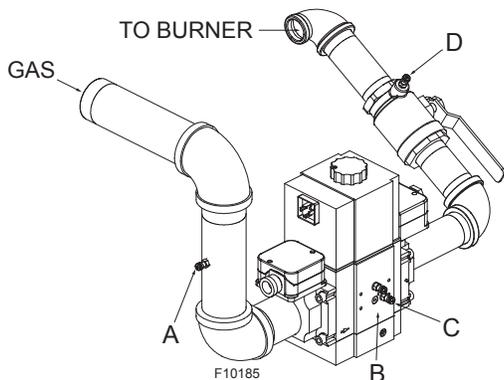

Figure 42. Gas Pressure Measurement Locations
2. Attach (1) 12" scale manometer to an upstream bleedle valve on the gas supply pipe to the heater Measure point "A" in **Figure 42**.
Test point C is a bleedle valve located downstream of both automatic gas valve seats and upstream of the manual valve. Refer to **Figure 42**.
Proper leak testing requires three pressure test points in the gas train. Remove the upper front panel and swing the front J-box out of the way to access the gas valve for this test. Refer to **Figure 42**.